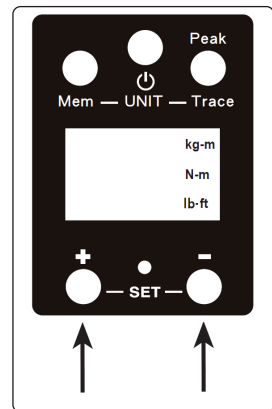

fig.4
- 4.4.1. To increase the value, press and hold the (+) button (fig.4), the target value will display for 10 seconds then the LCD will display 0.0.
- 4.4.2. To decrease the value, press and hold the (-) button (fig.4), the target value will display for 10 seconds then the LCD will display 0.0.